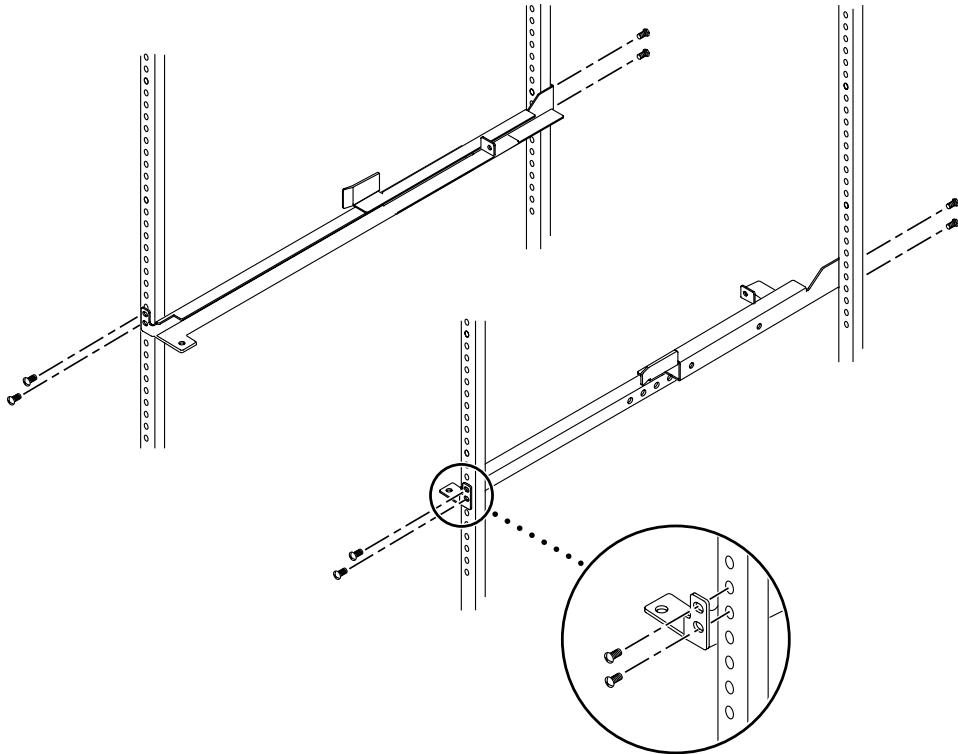

FIGURE 5 Installing Rails into the Rack
2. Fasten the rails to the rack (FIGURE 5).